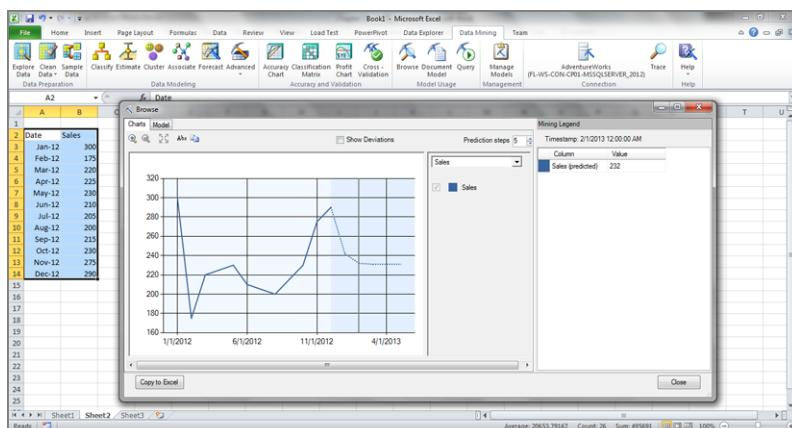

Figure 14-6
4. Click Finish to deploy and process the mining structure and view the results as seen in Figure 14-6.